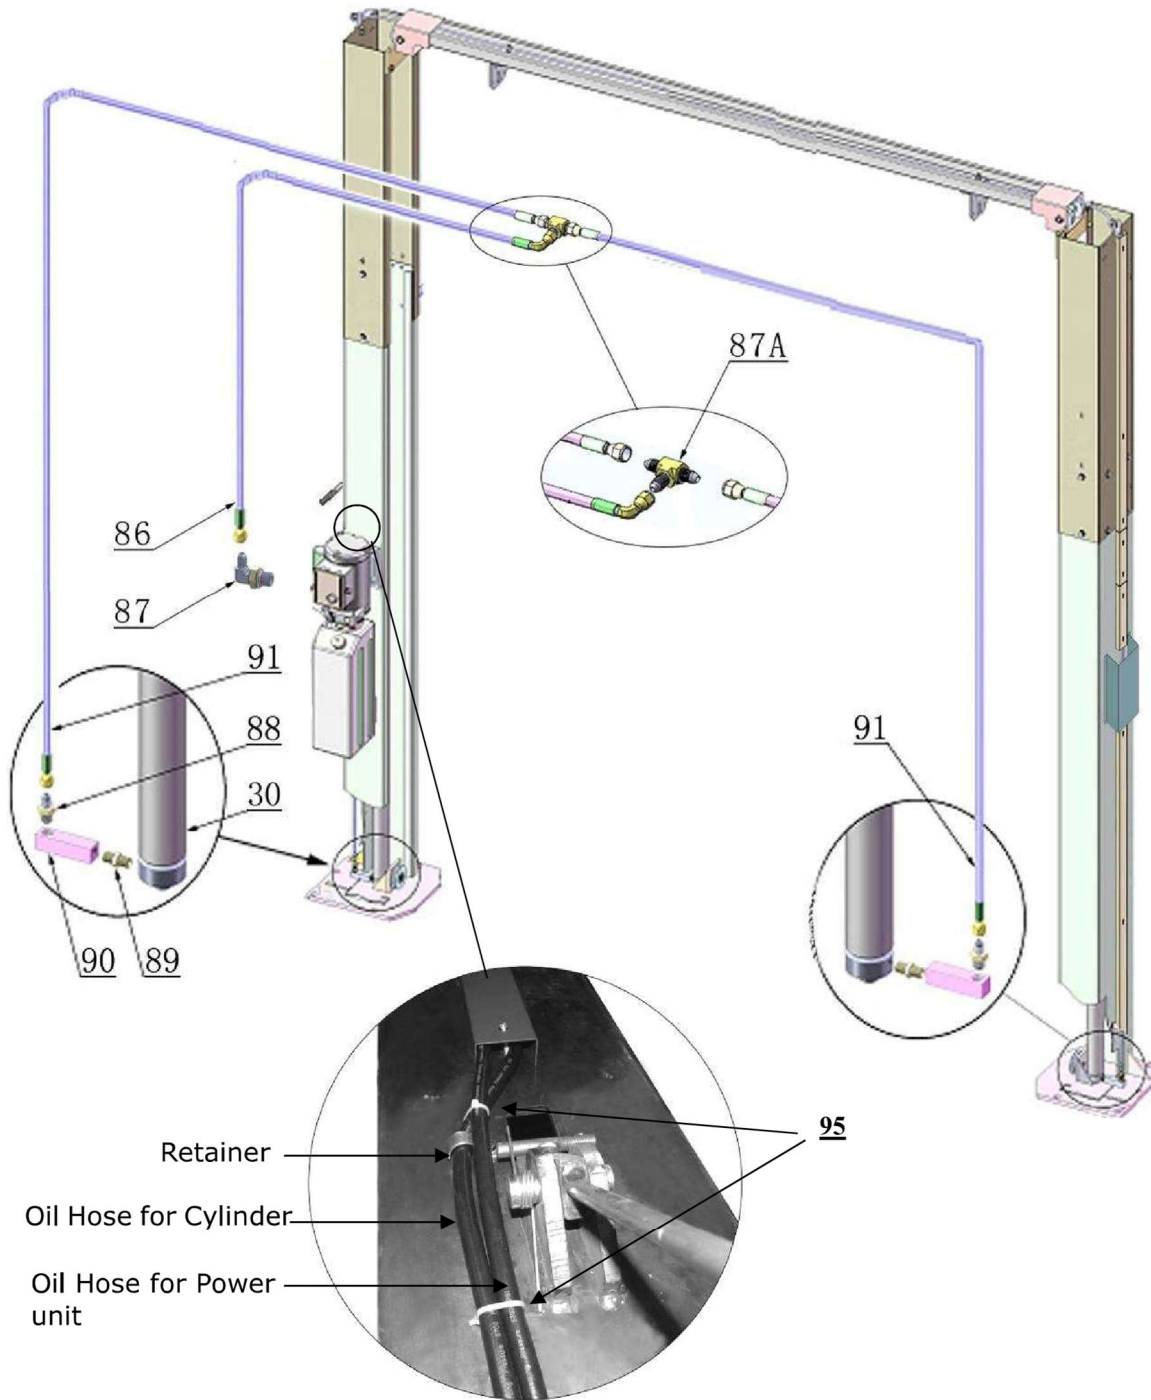

Fig. 25
L. Install hydraulic power unit and oil hose assy. (See Fig. 25).